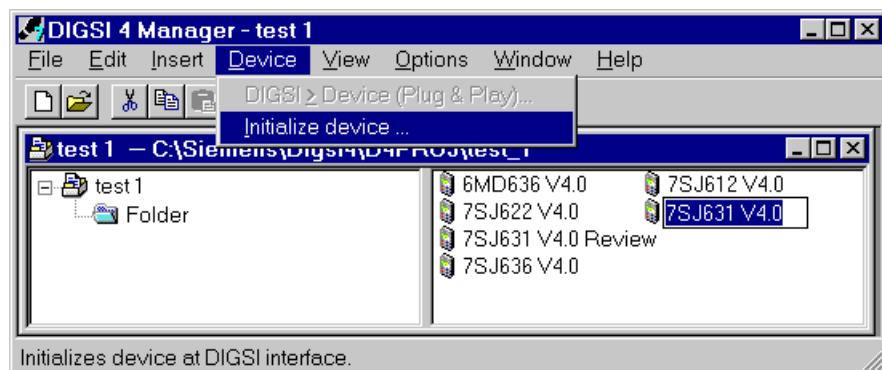

Figure 9-4 Initializing device via DIGSI® 4
- ☐ Select **Initialize device** in the menu **Device** (Figure 9-4).